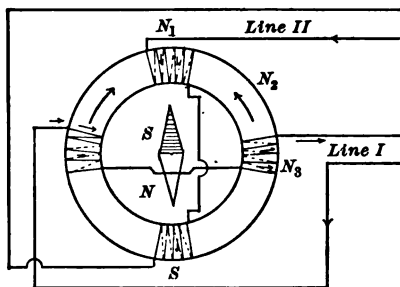

FIG. 338. — Iron ring excited by two currents 90 degrees apart.
**369. Rotating magnetic field.** To produce a rotating field, we will suppose that we have two alternating currents of the same frequency, but differing in phase by 90 degrees, and that we connect them to two sets of coils wound on a ring, as shown in figure 338.